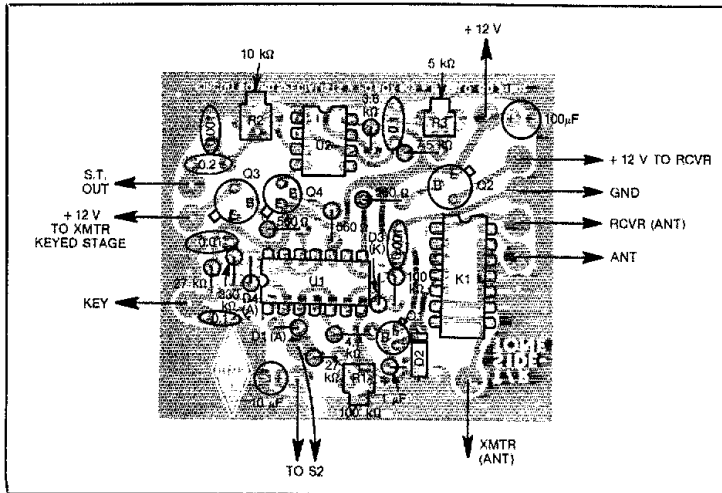
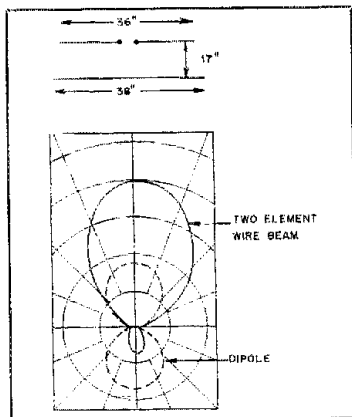
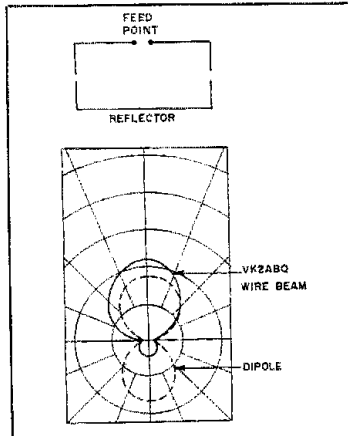

Fig. 4 — Parts-placement guide for the TR module as seen from the component side. Diode anodes and cathodes are shown as (A) and (K), respectively.
Fig. 5 — Two-element wire beam dimensions are shown at A. At B, the directive pattern is compared with that of a dipole.
Fig. 6 — The VK2ABQ-antenna configuration is shown at A. At B, the directive pattern of this antenna is compared with that of a dipole.
- ³This will work only if your rig requires a connection to ground for keying. If it needs a voltage source for keying, build the circuit shown in the 1984 *Radio Amateur's Handbook*, p. 11-3, Fig. 5. It provides output for both kinds of keying.
Fig. 5 — Circuit-board etching pattern for the TR module. The pattern is shown full-size from the foil side of the board. Black areas represent unetched copper foil.
inches in size, which makes it easy to tuck it into small equipment cabinets.² A parts-placement guide is given in Fig. 4. The circuit-board template is presented in Fig. 5.
A two-element model was constructed. The dimensions and radiation pattern are illustrated in Fig. 5. A 28.6-MHz antenna was scaled from this model and fed directly with 75-Ω coaxial cable. The minimum
What to do with the bent elements is a mechanical problem. One way out of this is to make a VK2ABQ configuration as shown in Fig. 6. This has good directivity, but poor gain compared with the two-element antenna. If the mechanical aspects are ignored and the elements are allowed to droop (like the top half of a quad), the gain returns to that of the two-element antenna (Fig. 5). As this seems to have the same gain as a quad, there appears to be little point